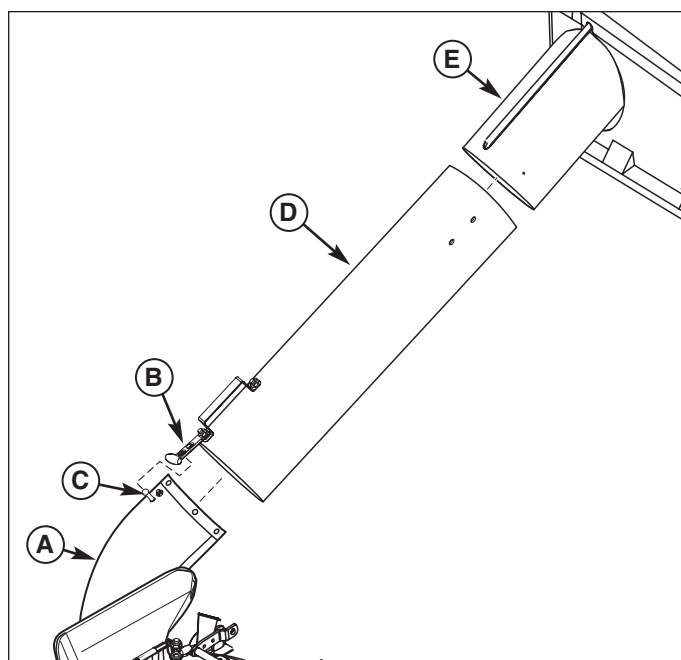

Figure 16. Install Middle Tube
2. Slide middle tube (D, Figure 16) into upper tube (E).
3. Slide middle tube (D) over boot (A). Pull strap (B) and place hole completely over pin (C).